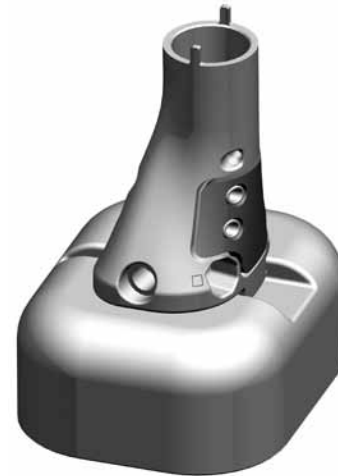

Fig. 20
- Rest the tibial plateau of the Segmental *Trabecular Metal* Proximal Tibial Component on the Segmental Tibial Impactor Base on the back table (Fig. 20).